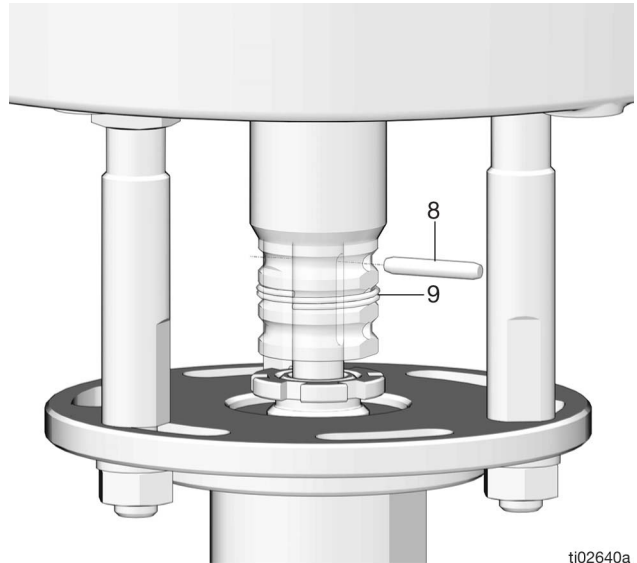

FIG. 6 Retaining spring and connector pin
3. Push the retaining spring up and push out the connector pin using a screwdriver or punch (FIG. 6).